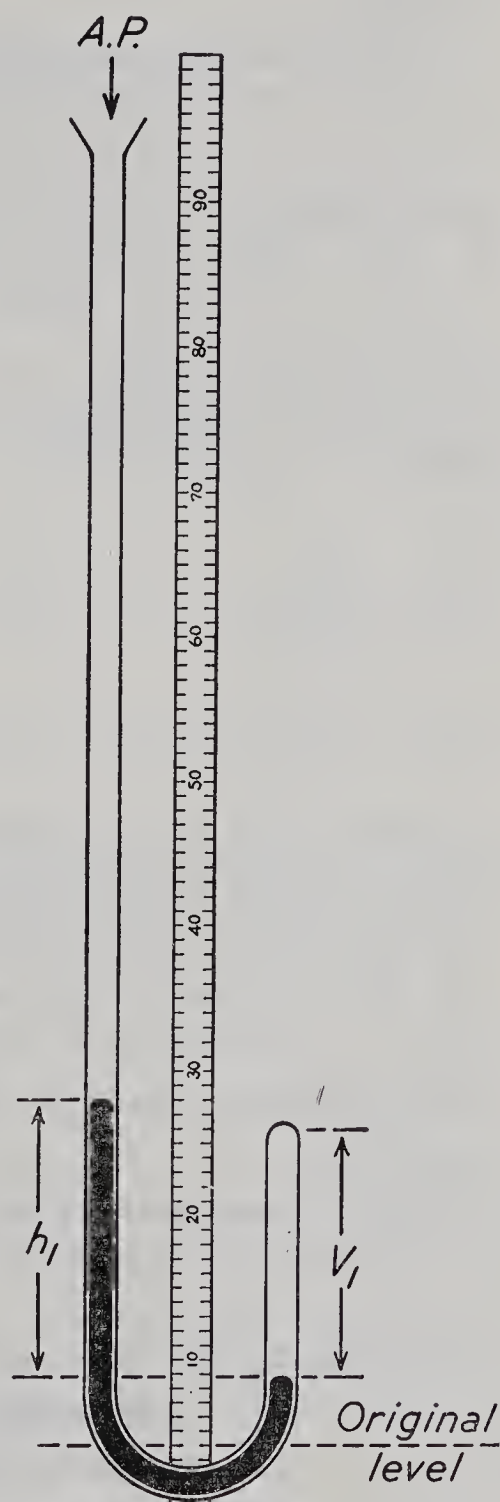

Fig. 43. Using a Boyle's Law tube.
1. Use a glass tube at least 4 mm. in diameter and 96 cm. long. The tube is bent in a U-form so that one arm is much shorter than the other. The shorter arm is sealed. Such a tube is often called a Boyle's Law tube (Fig. 43). (If such a tube is not available, two straight tubes, one short and sealed at one end and the other longer and open at both ends, may be connected by a heavy rubber tube and substituted for the Boyle's Law tube.)